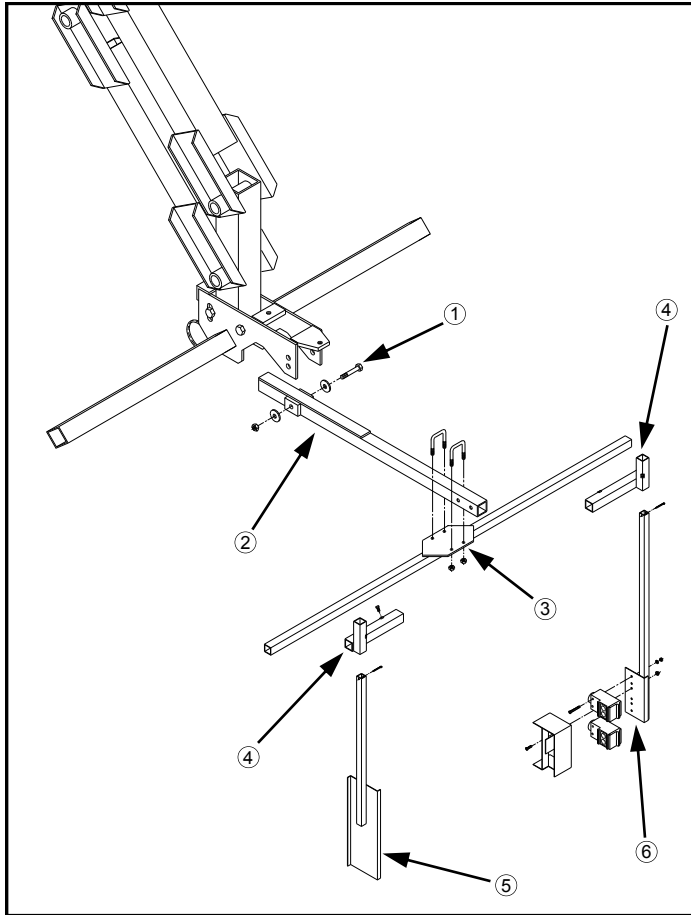

FIG 4.30
1. Install Tasselrol®/LS sensor arm weldment with the two nylon washers in the bottom hole in the tool bar (fig. 4.30, item 2).
2. Install the Tasselrol®/LS cross tube weldment (fig. 4.30, item 3) to the sensor arm.
3. Install the left and right slide mount weldments (fig. 4.30, item 4) to the cross tube weldment.
4. Install the Tasselrol®/LS reflector mount (fig. 4.30, item 5) and sensor mount (fig. 4.30, item 6) to the slide mount weldments.